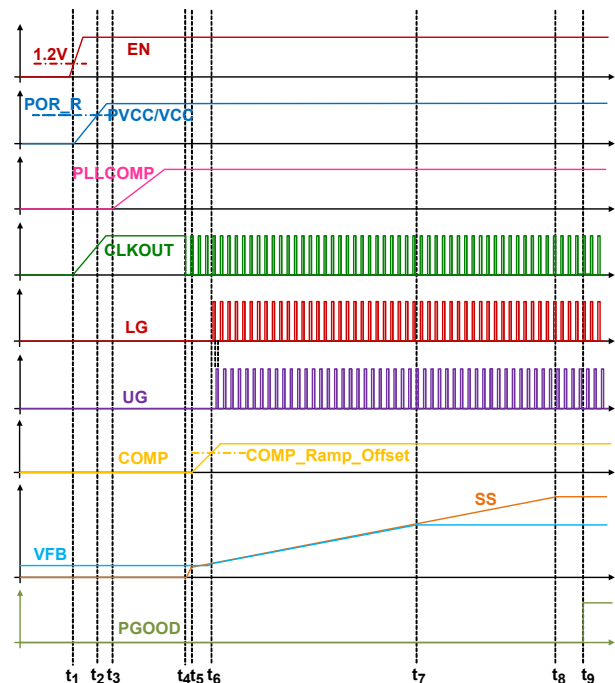

FIGURE 67. CIRCUIT INITIALIZATION AND SOFT-START
- There is no limit for the minimum voltage on the TRACK pin, but note the lower reference voltage and the lower voltage feedback regulation accuracy. Note the SS_DONE signal is checking $V_{REF_TRK} \geq 0.3V$ as one of the conditions (refer to the t_g - t_g description on page 31 and Figure 67 on page 30). Also, for the boost converter, the regulated output minimum voltage is usually the input voltage minus the upper MOSFET's body diode drop, in which case, the corresponding voltage at FB voltage is the minimum effective voltage for the V_{REF_TRK} and V_{REF_DAC} .
Before converter initialization, the EN pin voltage must be higher than its rising threshold and the PVCC/VCC pin must be higher than the rising POR threshold. When these conditions are met, the controller begins initialization and soft-start. Figure 67 shows the ISL78229 internal start-up timing diagram from the power-up to soft-start.
Assuming input voltage is applied to the VIN pin before t_1 and VCC is connected to PVCC, as shown on Figure 67, the start-up procedure is described as follows:
Diode emulation occurs during t₅-t₈ (on Figure 67 on page 30), regardless of the DE/PHDRP operating modes (Table 2).